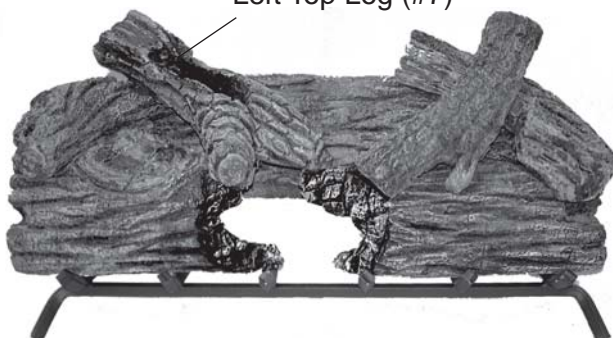

Figure 32 - Installing Left Top Log (#7)
8. Install left top log #7 as shown. *See Figure 32.*